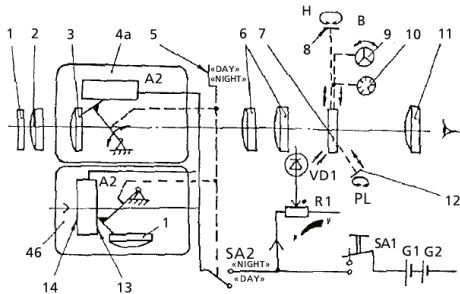

Figure 1
The functional device scheme is given on the figure 1 (see the Exhibit A).
- the ON/OFF switch (10) for turning on the reticle illumination and image intensifier (SA1 on figure 1);
- the DAY/NIGHT handle (9) for setting the switching mechanism (4) into the day or night operating mode;
- the hand wheel (3) for smooth brightness adjustment of the reticle;
- the hand wheel (12) for elevation adjustment;
- the screw (13) for windage adjustment.
- The wrench key is designated for turning the windage screw (13).
- The protected rubber eye shade from the accessories kit is used instead of the standard eye shade (16). It is designed for night work under conditions that require high level of camouflage. It hides the green light spot on the shooter’s face, when the shooter is not aiming.